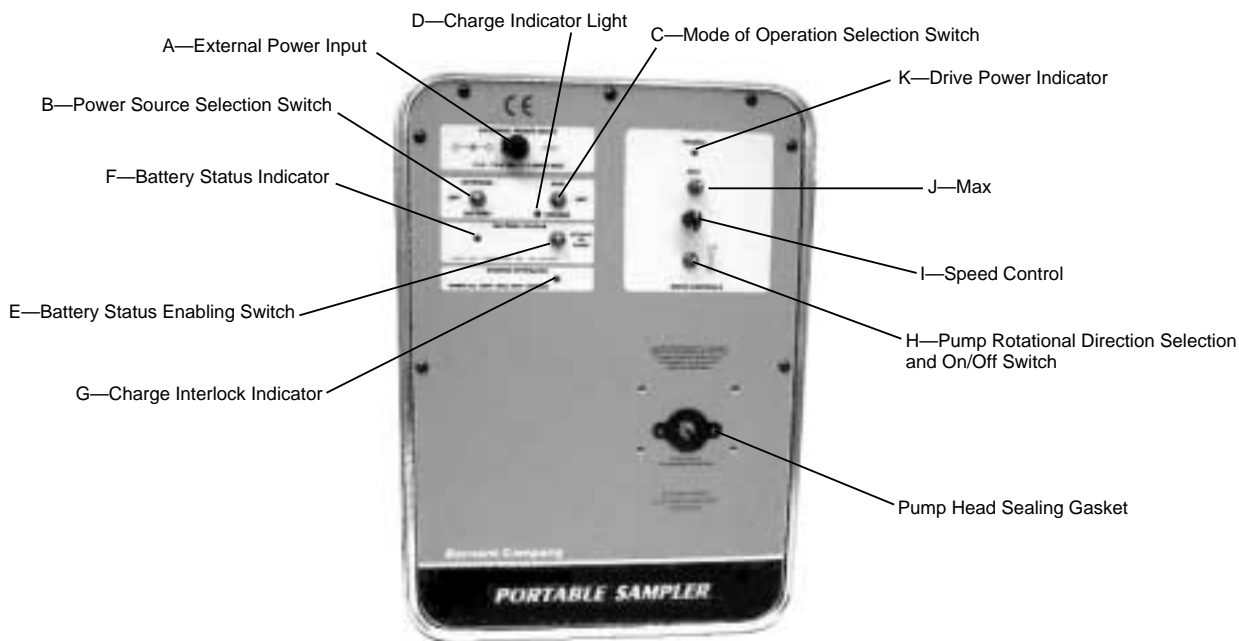

FIGURE 1 CONTROL PANEL
- A. **Connect the supplied AC/DC Power Supply/Converter to drive** by lifting **EXTERNAL POWER INPUT (A)** receptacle cover and inserting the 2.5 mm coaxial power jack into the receptacle. (See Figure 1.)
- A. Place the Power Source Selection Switch (B), (EXTERNAL/BATTERY) to the “BATTERY” position.
- B. Place the Mode of Operation Selection Switch (C), (RUN/CHARGE) to the “RUN” position.
- C. Select Pump Rotational Direction Selection On/Off Switch (H), CW or CCW. (See Figure 1.) (When changing directions, turn off the power first, which is the center or OFF position of the Rotational Direction Switch.)
- D. Adjust pump flow rate with the 1-turn Speed Control (I), by turning the knob CW to increase flow rate or CCW to decrease flow rate.
- E. To “Prime the Tubing”, toggle the “MAX” Switch (J), up or down to make the pump run at maximum speed.
- A. Place the Power Source Selection Switch (B), (EXTERNAL/BATTERY) to the “EXTERNAL” position.
- A. Connect the supplied AC/DC Power Supply/Converter to drive by lifting the EXTERNAL POWER INPUT (A), receptacle cover and inserting the 2.5 mm coaxial power jack into the receptacle. (See Figure 1.)
- B. Connect AC/DC Power Supply/Converter to an AC power source. Place the Power Source Selection Switch (B), (EXTERNAL/BATTERY) to the “EXTERNAL” position.
- C. Place the Mode of Operation Selection Switch (C) (CHARGE/RUN) to the “RUN” position.
- D. Select Pump Rotational Direction Selection On/Off Switch (H), CW or CCW. (See Figure 1.) (When changing directions, turn off the power first, which is the center or OFF position of the Rotational Direction Switch.)
- E. Adjust pump flow rate with the 1-turn Speed Control (I), by turning the knob CW to increase flow rate or CCW to decrease flow rate.
- F. To “Prime the Tubing”, toggle the “MAX” Switch (J), up or down and hold to make the pump run at maximum speed.